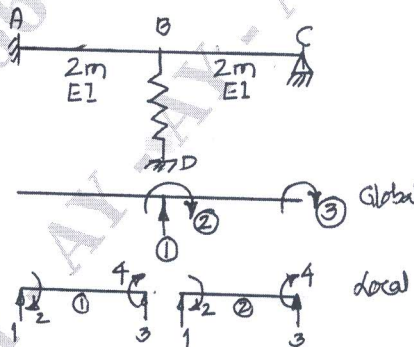

Fig.Q8(b)
b. Synthesize the overall stiffness matrix for the continuous beam by direct stiffness method. Refer Fig.Q8(b).  $EI = 333.3 \text{ kN-m}^2$ , spring stiffness = 1000 kN/m.